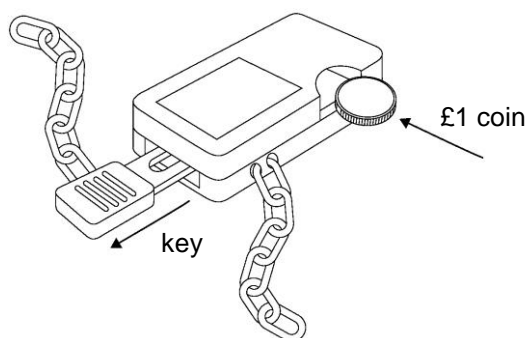

Fig. 9
- (d) **Image C** on the insert shows a locking device on a luggage trolley. **Fig. 9** below shows how to use the device. The £1 coin is inserted into the device. The key is released and pops out.